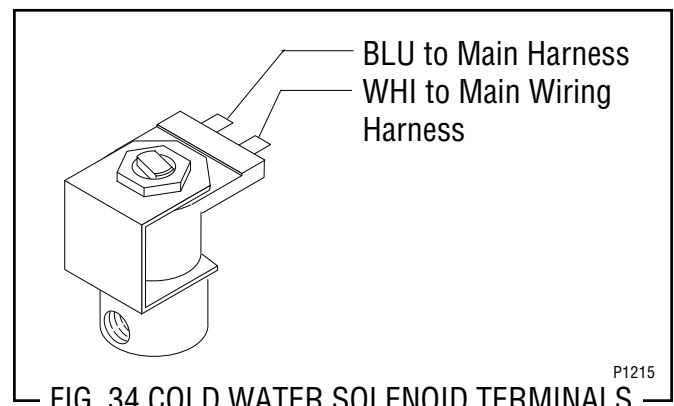

FIG. 34 COLD WATER SOLENOID TERMINALS
10. Refer to Fig. 34 when reconnecting the wires.
If continuity is present as described, reconnect the wires to the solenoid (see Fig. 34), proceed to #6
12. Refer to Fig. 34 and reconnect the wires.